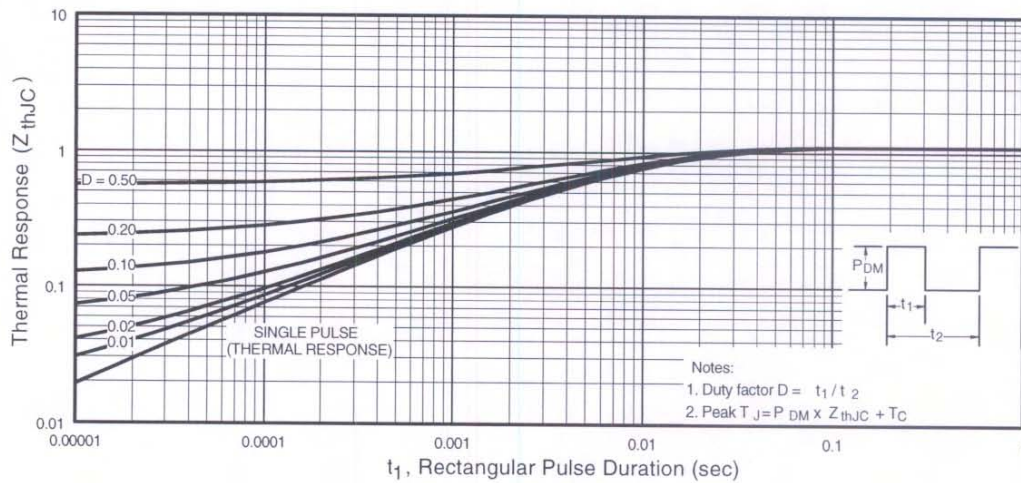

Fig 11. Maximum Effective Transient Thermal Impedance, Junction-to-Case
- ① Repetitive rating; pulse width limited by max. junction temperature. (See fig. 11)
- ② Starting $T_J = 25^\circ\text{C}$, $L = 1.9\text{mH}$